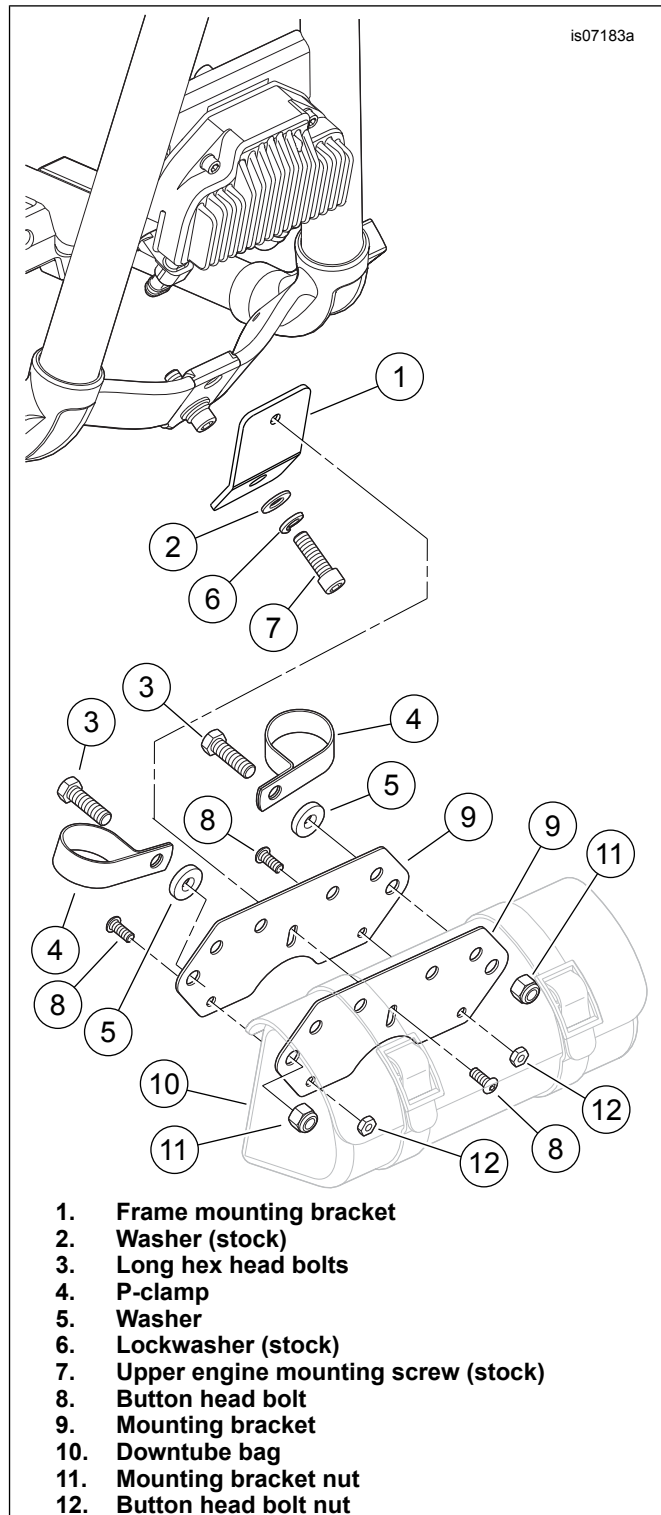

Figure 4. Dyna Models Without Engine Guard
3. See Figure 4. Place one mounting bracket (9) against the back of the downtube bag (10). Align the holes in the mounting bracket with the holes in the bag. Insert two button head bolts (8) through lower mounting holes.
5. Install nuts (12) over button head bolts on the inside of the bag. Tighten nuts to 6.8 N·m (60 in-lbs).
6. Remove the upper engine mount screw (7), lockwasher (6) and washer (2).
7. Wrap P-clamps (4) around frame downtubes with flat side facing out.
8. Place the bag assembly against the frame mounting bracket (1). Insert button head bolt (8) from inside the bag into threaded nut on the frame mounting bracket. Fasten bolt loosely.
10. Insert long hex head bolts (3) through P-clamps, spacers (5) and mounting brackets on bag.
11. From the inside of the bag, thread mounting bracket nuts (11) onto long hex head bolts. Tighten nuts to 16.3–21.7 N·m (12–16 ft-lbs).